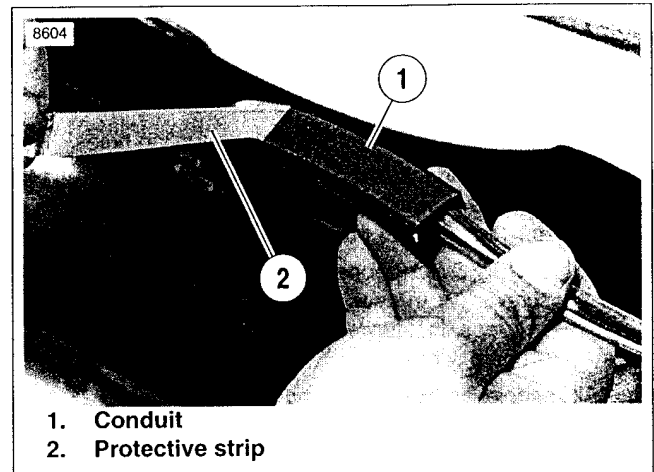

Figure 2-118. Removing Protective Strip From Conduit
4. Remove protective strip covering adhesive on conduit (see Figure 2-118.) and lightly position the conduit in place.